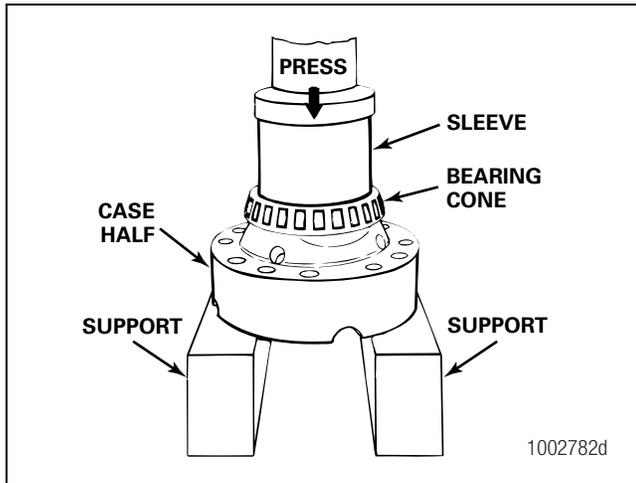

Figure 5.21
- Use a press and the correct size sleeve to install the bearing cones onto both of the case halves. Figure 5.21.